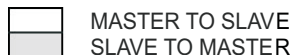

Figure 33. SMBus Write-Word and Read-Word Protocols
The bq24745 receives control inputs from the SMBus interface. The bq24745 uses a simplified subset of the commands documented in System Management Bus Specification V1.1, which can be downloaded from www.smbus.org. The bq24745 uses the SMBus Read-Word and Write-Word protocols (Figure 33) to communicate with the smart battery. The bq24745 performs only as an SMBus slave device with address 0b0001 001_ (0x12) and does not initiate communication on the bus. In addition, the bq24745 has two identification (ID) registers (0xFE): a 16-bit device ID register and a 16-bit manufacturer ID register (0xFF).
To set the output charge-voltage regulation limit, use the SMBus to write a 16-bit ChargeVoltage() command using the data format listed in Table 3. The ChargeVoltage() command uses the Write-Word protocol (see Figure 33). The command code for ChargeVoltage() is 0x15 (0b0001 0101). The bq24745 provides a 1.024-V to 19.200-V charge voltage range, with 16-mV resolution. Setting ChargeVoltage() below 1.024 V or above 19.2 V clears the DAC and terminates charge.
To set the charge current, use the SMBus to write a 16-bit ChargeCurrent() command using the data format listed in Table 4. The ChargeCurrent() command uses the Write-Word protocol (see Figure 33). The command code for ChargeCurrent() is 0x14 (0b0001 0100). When using a 10-m Ω sense resistor, the bq24745 provides a charge current range of 128 mA to 8.064 A, with 128-mA resolution. Set ChargeCurrent() to 0 to terminate charging. Setting ChargeCurrent() below 128 mA, or above 8.064 A, clears DAC and terminates charge.
To set the input current limit, use the SMBus to write a 16-bit InputCurrent() command using the data format listed in Table 5. The InputCurrent() command uses the Write-Word protocol (see Figure 33). The command code for InputCurrent() is 0x3F (0b0011 1111). When using a 10-mΩ sense resistor, the bq24745 provides an input-current limit range of 256 mA to 11.008 A, with 256-mA resolution. InputCurrent() settings from 1 mA to 256 mA clears DAC and terminates charge. On reset the input current limit is 256 mA.